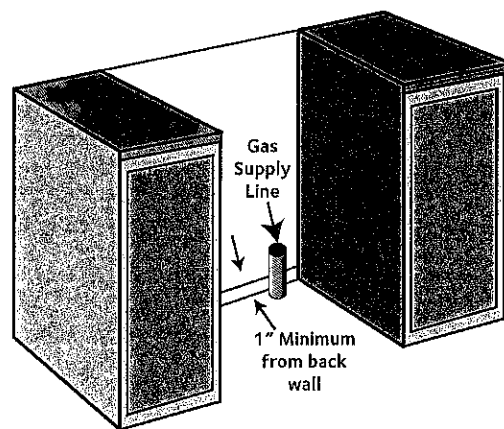

Figure 2
- Gas supply should be located near the opening for this appliance and be a minimum of 1" from the back wall (See Figure 2):